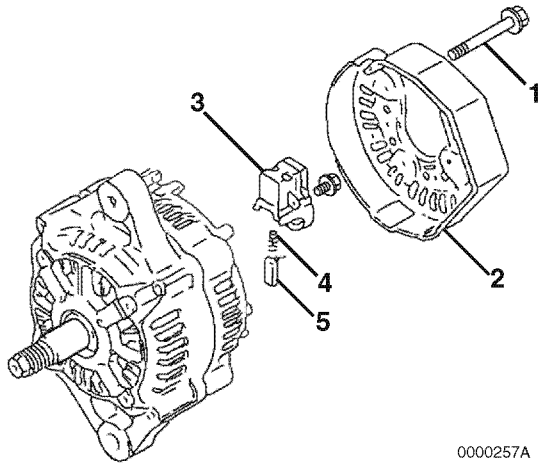

Figure 12-17
8. Reinstall the brush holder (Figure 12-17, (3)), springs (Figure 12-17, (4)) and brushes (Figure 12-17, (5)).
10. Reinstall the rear cover (Figure 12-17, (2)) to the rear frame housing with three bolts (Figure 12-17, (1)).